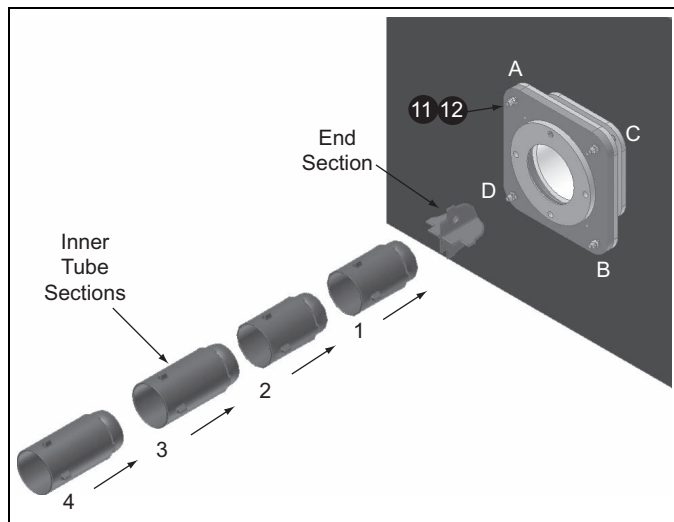

Figure 3.13
5. Secure the Support Flange to the Mounting Extension using M12 nuts and washers (see Figure 3.13) (Items 11 and 12) as follows:
- c. Using a hand wrench snug all bolts on the following order - A,B,C,D (see Figure 3.13)
6. Install inner ceramic sections. Refer to Table 3.1 for the appropriate quantities of short (185 mm) and long (235 mm) inner tube sections. Starting with the end section, add the inner tube sections one into the other and push them to the end of the outer tube. Make sure the inner tube sections are bottomed in the outer tube. If they are not fully inserted, the burner will not operate properly and may become damaged. See Figure 3.13.